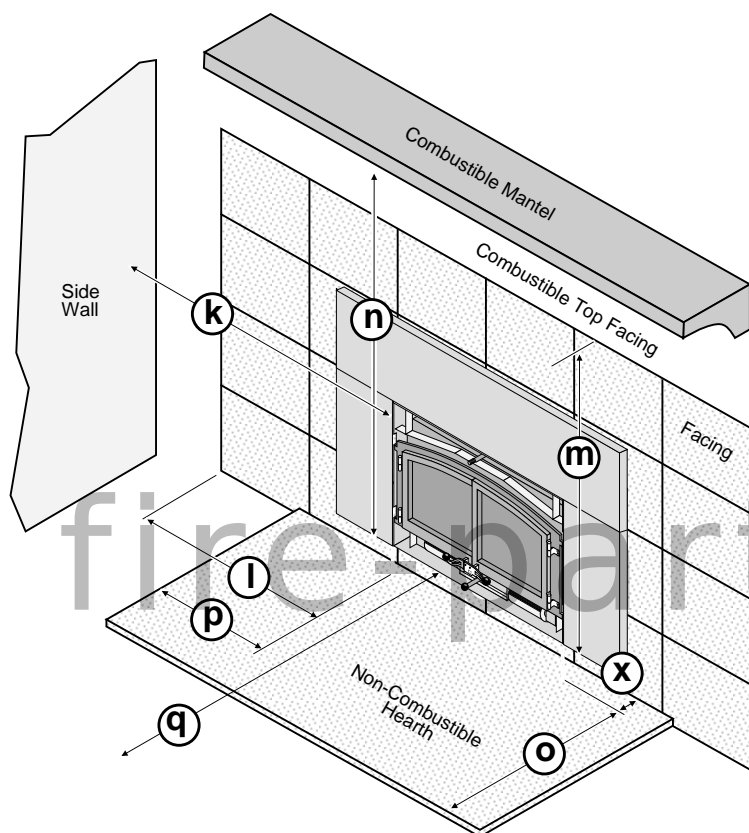

Figure 3
- The minimum clearances, facing, and hearth requirements in Figure 3 must be met.